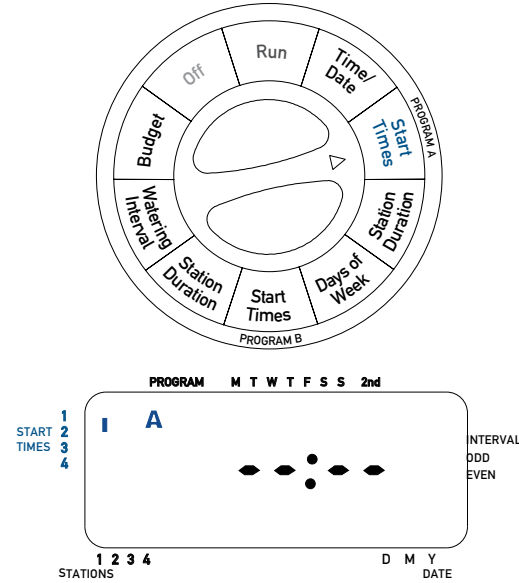

Figure 3: LCD Display with Start Time
- Turn the dial to the **CYCLE START TIMES** position in “Program A”. The display will show an “A” and a blinking cursor should be next to “Cycle Start Time 1” (on the left side of the LCD). If not, push the **NEXT** key until the cursor is next to “Cycle Start Time 1”. [See Figure 3]